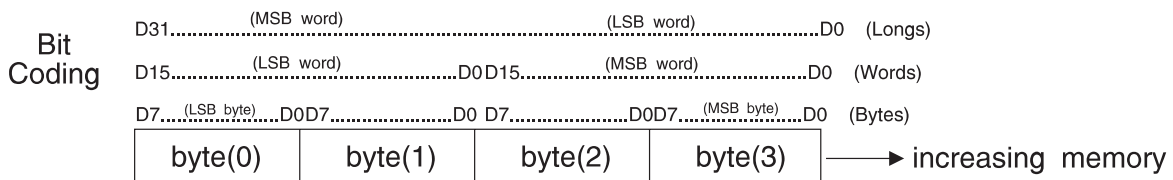
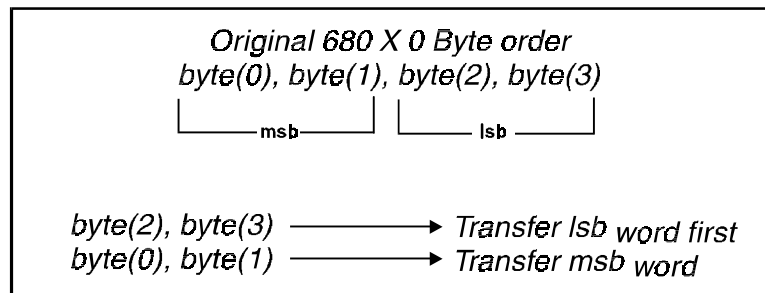

Figure B.1 680x0 Bit and Byte Numbering Conventions
Figure B.6 Transferring a Long Word
Data in 680x0 memory is typically described as shown in Figure B.1, and can be bytes, words, or longs. Bytes are numbered left to right (in the direction of increasing memory) and are identified as byte(0), byte(1), byte(2), and byte(3) and have the corresponding 680x0 hex addresses xxxxx0, xxxxx1, xxxxx2, and xxxxx3 (or xxxxxxxx0, etc. for 32 bit addressing mode).
In Figure B.1, byte(0) is the lsb byte in the byte sequence byte(0), byte(1), byte(2), and byte(3). For words, byte (0), byte(1) is the lsb word, and byte(2), byte(3) is the msb word (the next word). For a long, all four bytes are used to represent the long, and the byte pair byte(0), byte(1) is the msb word of the long, and byte pair byte(2), byte(3) is the lsb word of the long.
As can be seen by examining Figures B.1, B.2, B.3, and B.4, data transferred from 680x0 memory directly to TMS34010 memory without modification only meets our objective if the data being transferred are words.
If the data being transferred across the VMEbus are words, the data may be transferred without modification, as can be seen by examining Figures B.1, B.2, B.3, and B.4.
If the data being transferred across the VMEbus are longs, it is evident from Figures B.1, B.2, B.3, and B.4 that the msb and lsb words of the long are interchanged if transferred to TMS34010 memory directly from 680x0 memory without additional processing. The solutions is to transfer the lsb word first [byte(2), byte(3)], and then transfer the msb word [byte(0), byte(1)] as shown in Figure B.6.